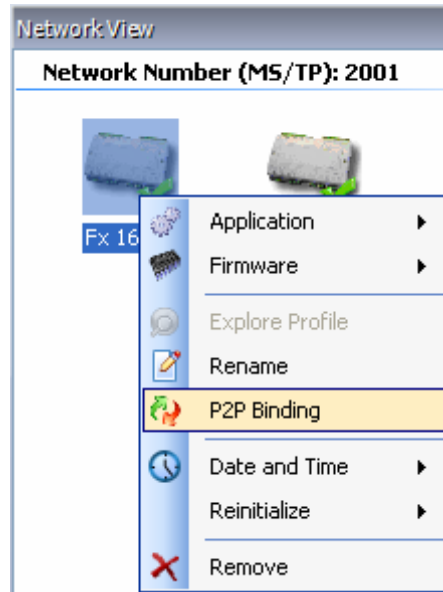
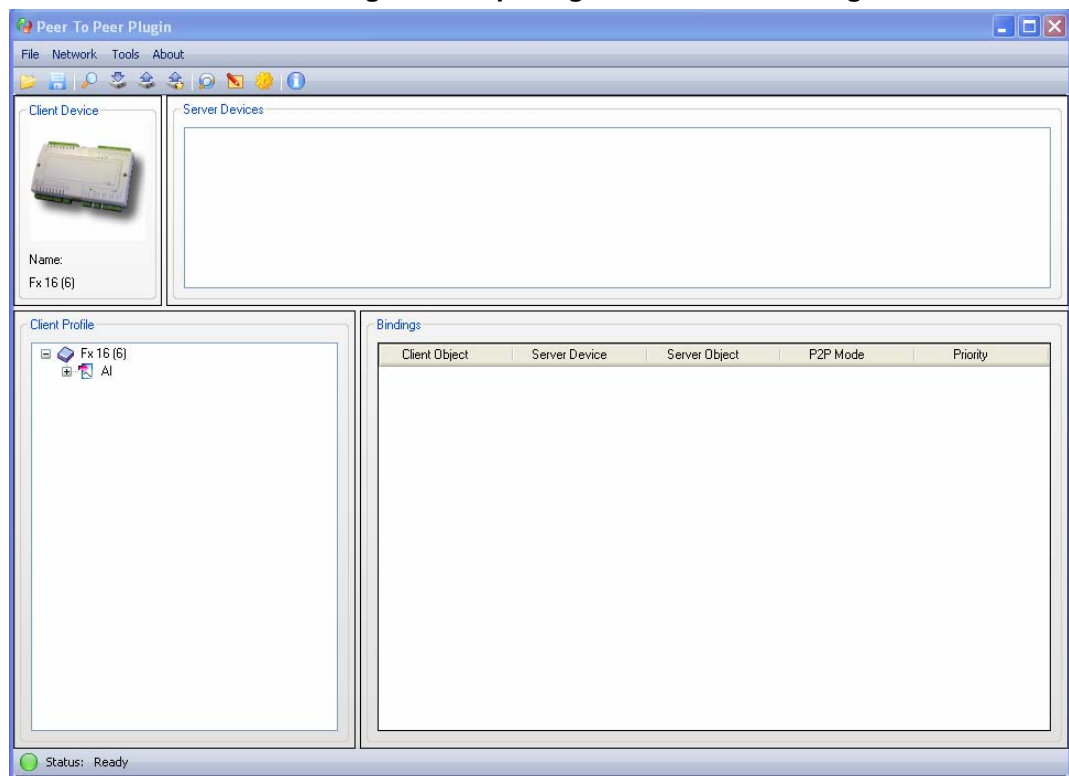

Figure 45: Opening the Peer-to-Peer Plug-in
Figure 46: Peer-to-Peer Plug-in
1. From the Network View, right-click on the device you wish to make the peer-to-peer binding client (the device requesting the data) and select **P2P Binding** (Figure 45). The Peer-to-Peer Plug-in appears, showing the Client Device you selected (Figure 46).